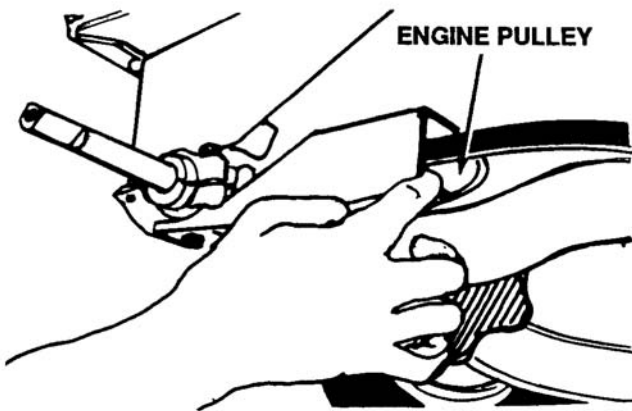

Figure 12-29. Pivoting Lower Outside Belt Guard Away From Engine Pulley
5. Pivot the lower outside belt guard out and away from the engine pulley. See Figure 12-29.